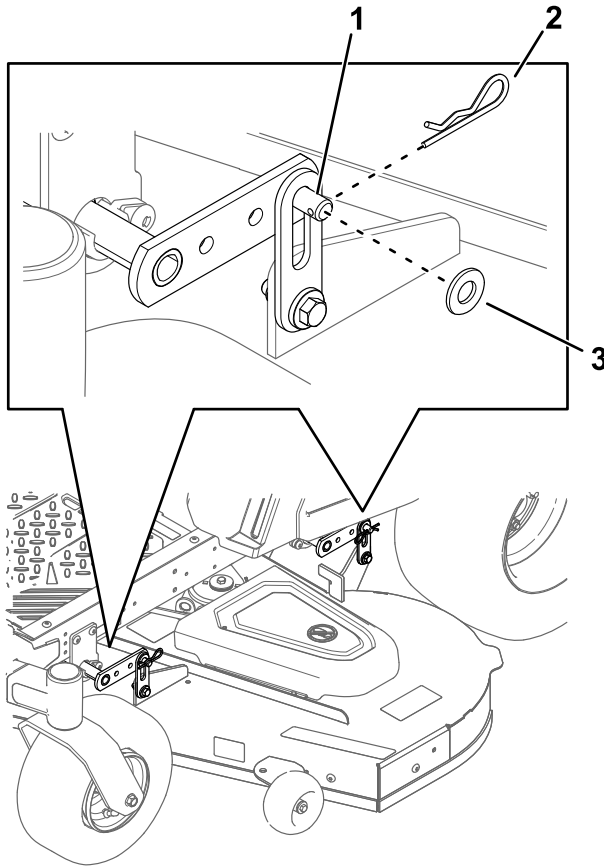

Figure 64
- A. Lift the rear of the mower deck and attach the rear deck hangers to the rear deck pins (reference Figure 64).